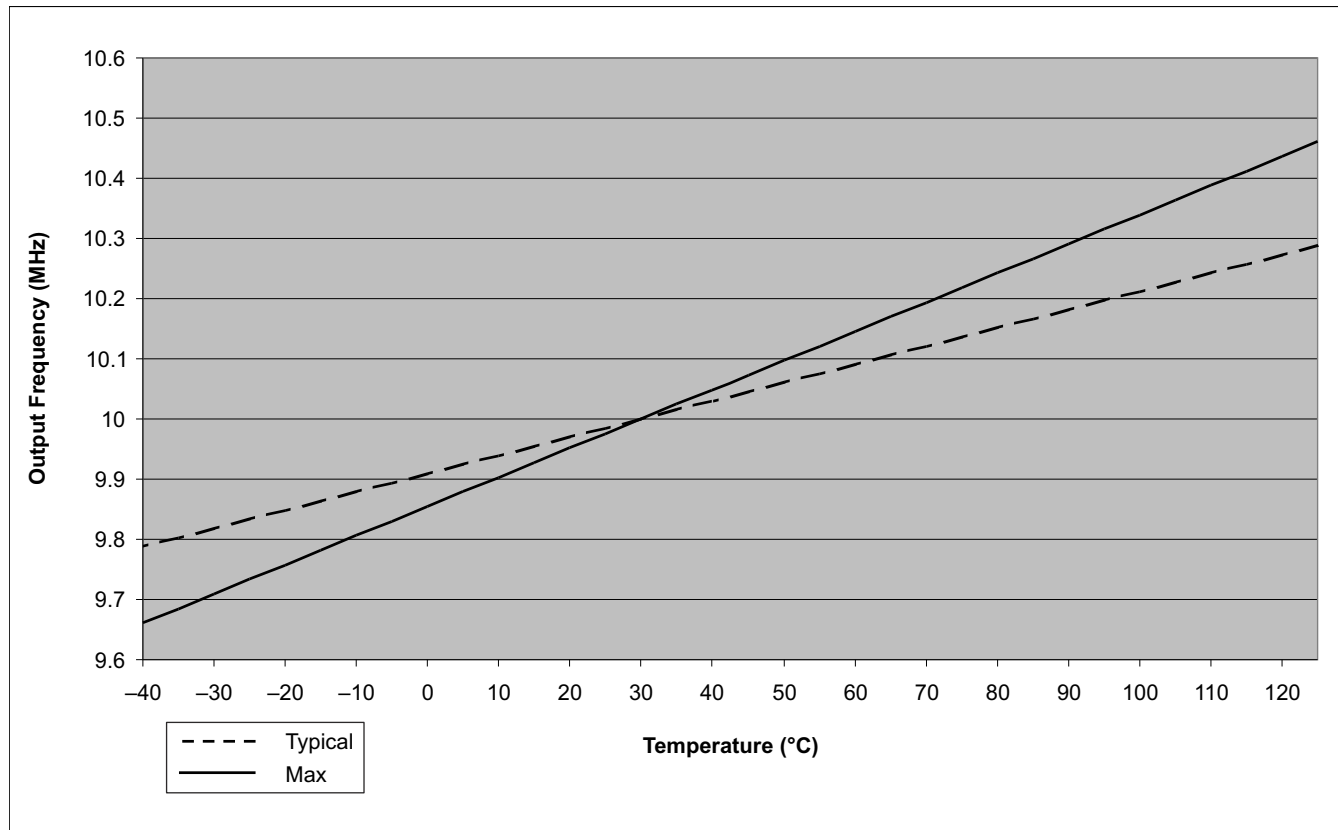

图 7-8. Zero-Pin Oscillator Frequency Movement With Temperature
- (1) Oscillator frequency will vary over temperature, see Figure 7-8. To compensate for oscillator temperature drift, see the Oscillator Compensation Guide and C2000Ware.
- (2) Frequency range ensured only when VREG is enabled, $\overline{\text{VREGENZ}} = V_{\text{SS}}$.
- (3) Output frequency of the internal oscillators follows the direction of both the temperature gradient and voltage (V_{DD}) gradient. For example: